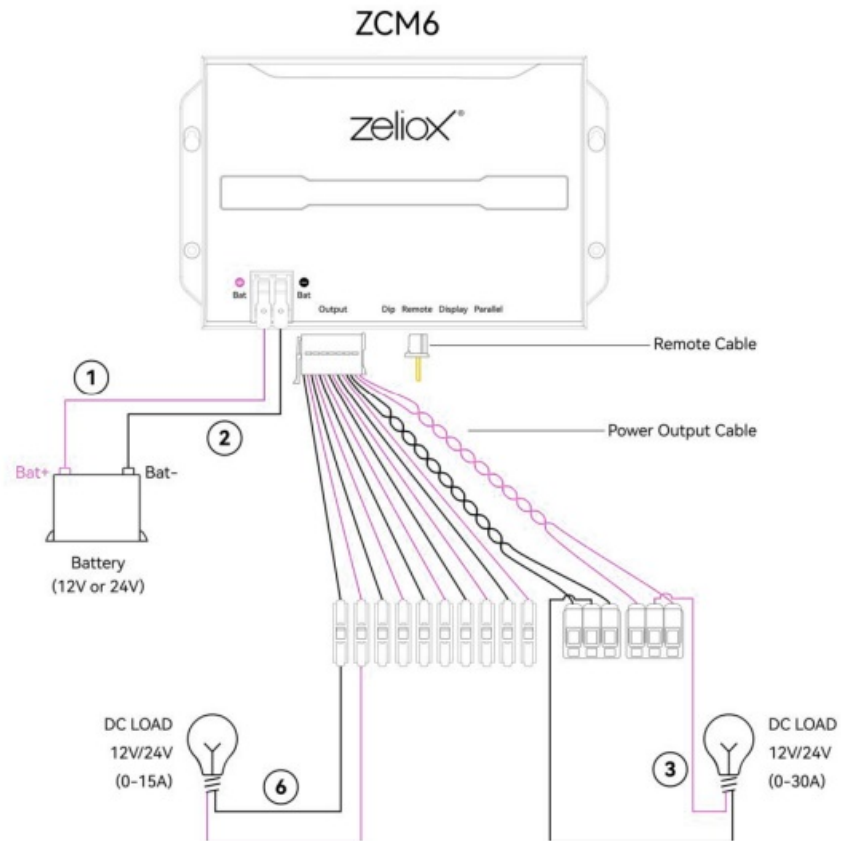

Figure 3-2 Single ZCM6 wiring
- **Step 2:** Remove the dust cap from the input terminal, connect BAT- to battery negative terminal, and connect BAT+ to battery positive terminal . Please see Figure 3-2. Be sure to check the input polarity, reversing it will damage the device
- **Step 3:** Connect Output- to DC Load- and connect Output+ to DC Load+ , Please see Figure 3-2.